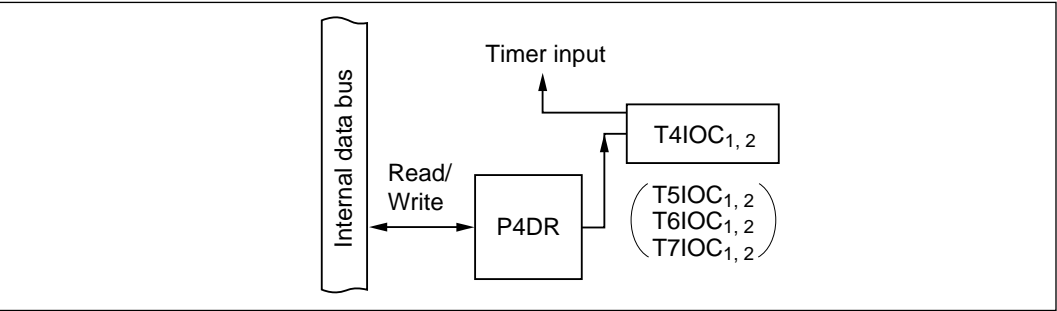

Figure 10-25 Input Capture Combined with General-Purpose Output (Modes 1 to 7)
(4) **Timer Input Combined with General-Purpose Output (Modes 1 to 7):** Figure 10-25 shows a block diagram illustrating the input capture function when combined with general-purpose output. Table 10-19 indicates register read/write data. An input capture pin can also function as an output port, in which case the output value is input to the timer.